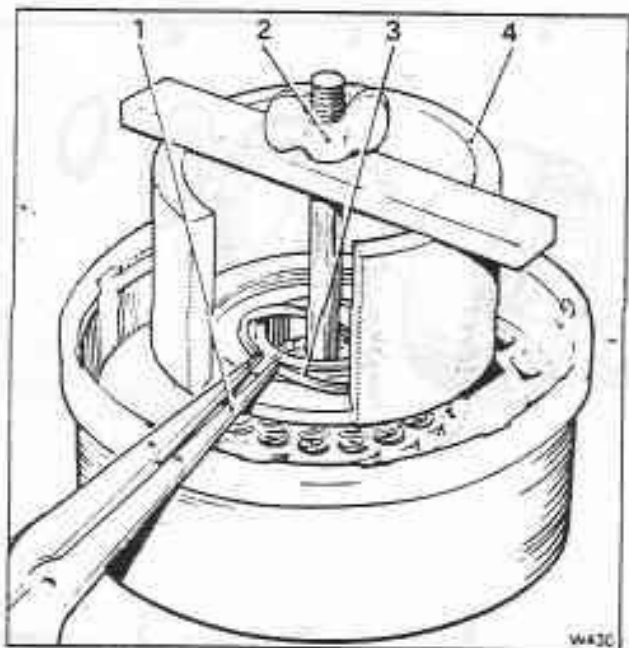

Fig. T18-10 Removing and fitting the direct clutch housing snap ring
6. Using the clutch spring compressor (J-2590), compress the clutch release springs and remove the snap ring (see fig. T18-10).